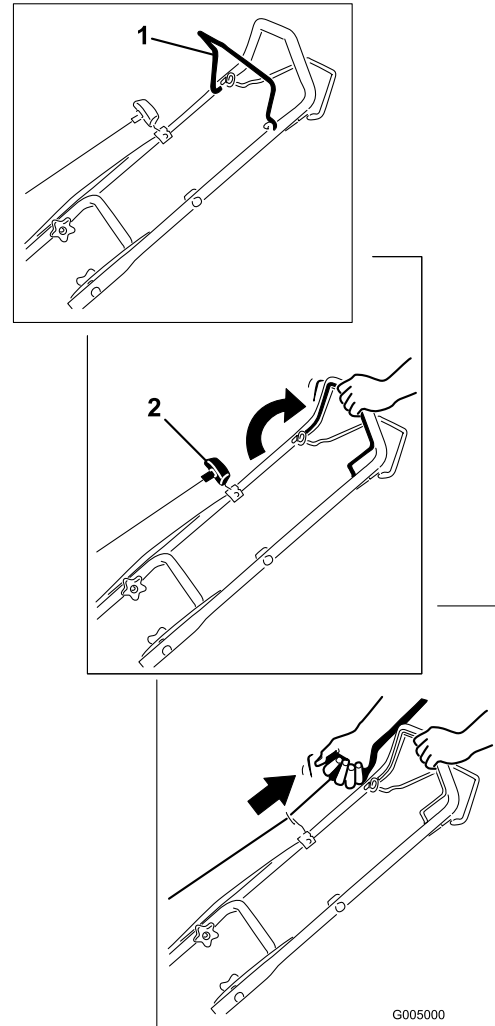

Figure 12
2. Hold the blade control bar against the handle and pull the recoil start handle (Figure 12).